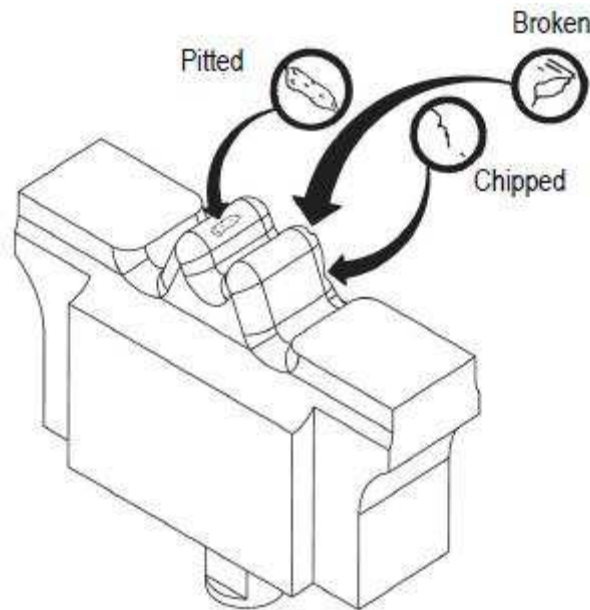

Figure 5
A. Visual Inspection (Figure 5)
2. Check all surfaces for wear. Inspect the crimp area for flattened, chipped, cracked, worn, or broken areas. See Figure 5. If damage is evident, the die must be replaced.